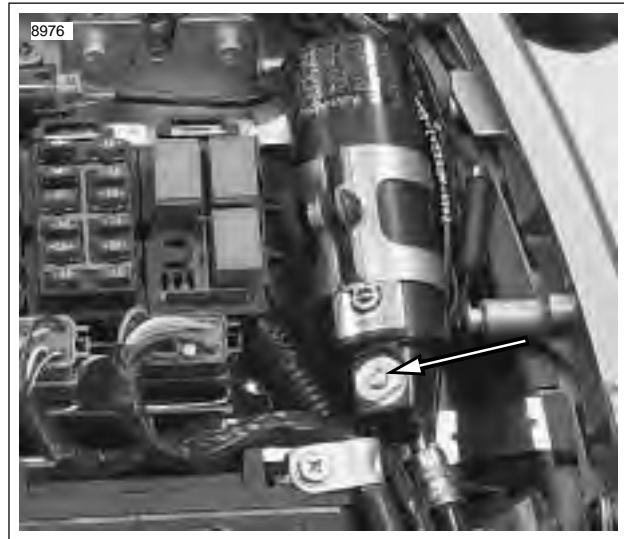

Figure 1-33. Rear Shock Compression Adjustment
2. See Figure 1-33. Using a screwdriver, turn the slotted dial clockwise until it stops. This is the maximum compression damping setting.